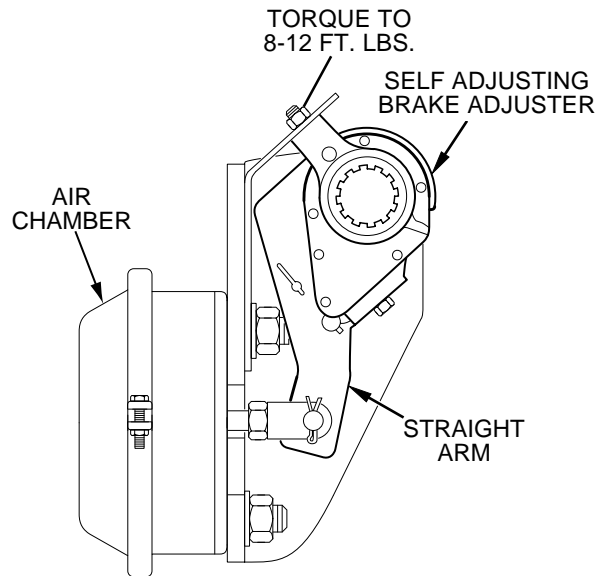

Figure 8 Straight (Bolt-On Type Bracket) Installation
- Straight brake adjuster using bolt-on type bracket (See Figure 8.)